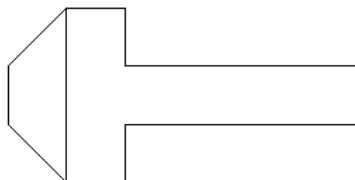

Figure 4-14: The completed drawing of a bolt.
16. Save your drawing. It should look like Figure 4-14.